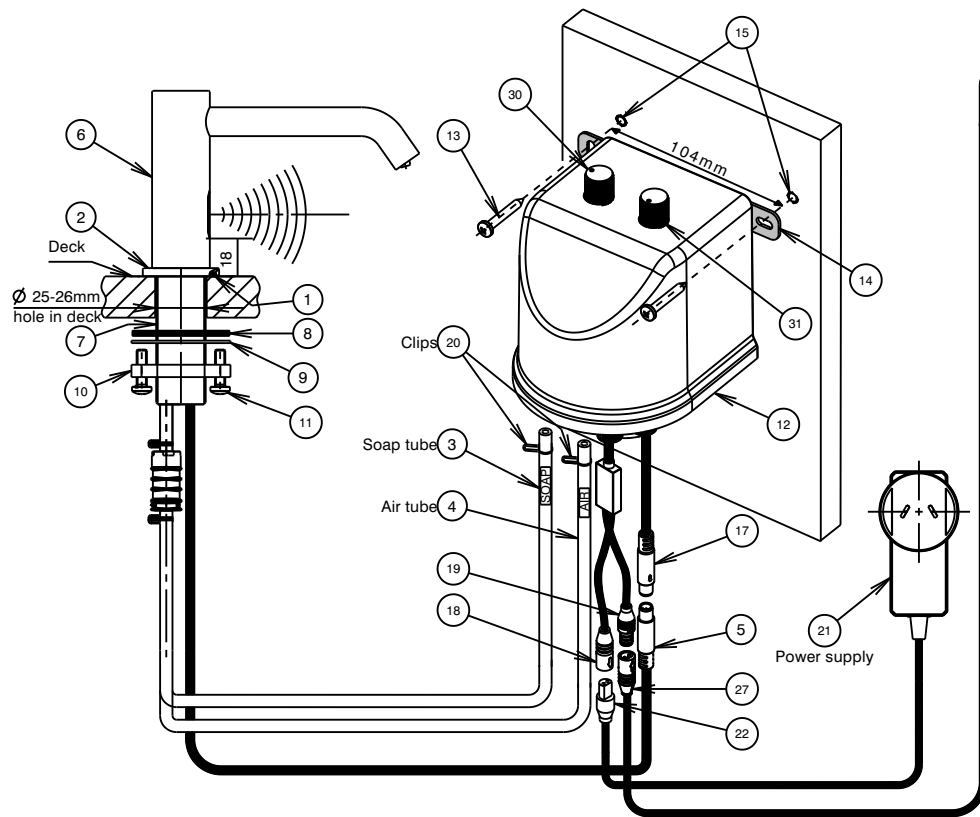
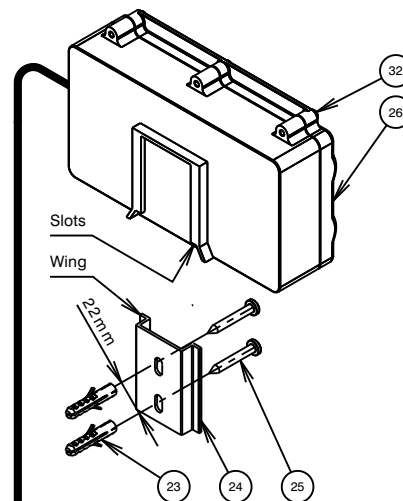
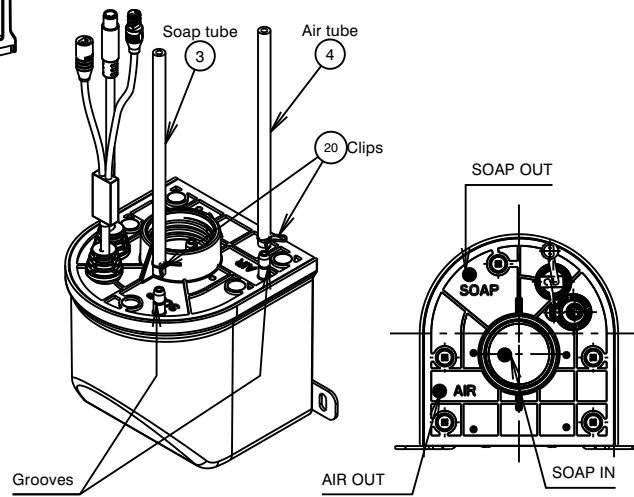

Fig.2 - Sensor unit installation
Fig.6 - Battery box installation
Fig.5
- 1) Ensure 'O'ring (1) is fitted into groove in base ring (2).
- 2) Insert the soap tube (3), air tube (4) and sensor cable (5) through the hole of base ring (2). Pass base ring (2) through threaded tube (7) until the base ring (2) sits against bottom of sensor body (6).
- 3) Insert soap tube (3), air tube (4) and sensor cable (5) through the hole in the deck. Insert threaded tube (7) into deck hole, orientate sensor body as required. From under the deck, Insert soap tube (3), air tube (4) and sensor cable (5) through flat seal (8), washer (9) and clamp ring (10) in order, then fit flat seal (8) followed by washer (9) over threaded tube (7) as shown in Fig. 2. Screw clamp ring (10) onto threaded tube (7) until it contacts washer (9) & the flat seal (8) has contacted the underside of the deck. Tighten two screws (11) equally until sensor assembly is clamped firmly to the deck. DO NOT OVERTIGHTEN.
- i) Drill two Ø6mm holes, 40mm deep and 104mm apart horizontally as shown in Fig. 2.
- ii) Insert small end of wall plugs (15) into drilled holes and tap until flush with wall/tile face.
- iii) Align the slots on fixing plate (14) with the holes on the wall, pass the screws (13) through the slots and insert into the wall plugs (15). Then tighten the screws. DO NOT OVERTIGHTEN.
- i) Drill two holes at 104mm apart horizontally to suit the self tapping screws supplied as shown in Fig. 2.
- ii) Align the slots on fixing plate (14) with the holes on the wall, pass the screws (13) through the slots and insert into the holes in the stud. Then tighten the screws. DO NOT OVERTIGHTEN.
- i) Drill two Ø6mm holes, 40mm deep and 22mm apart vertically as shown in Fig. 6.
- ii) Insert small end of wall plugs (23) into drilled holes and tap until flush with wall/tile face.
- iii) Align the slots on bracket (24) with the holes on the wall, pass the screws (25) through the slots and insert into the wall plugs (23). Then tighten the screws. DO NOT OVERTIGHTEN.
- iv) Mount the battery box (26) onto wings of bracket (24).
- i) Drill two holes at 22mm apart vertically to suit the self tapping screws supplied as shown in Fig. 6.
- ii) Align the slots on bracket (24) with the holes on the wall, pass the screws (25) through the slots and insert into the holes in the stud. Then tighten the screws. DO NOT OVERTIGHTEN.
- iii) Mount the battery box (26) onto wings of bracket (24).
a) Soap tube and air tube connections, (Fig. 2 & Fig. 5):
b) Sensor cable connection, (Fig.2):
By aligning the profile of connectors (5) & (17), connect the sensor cable (5) from the outlet to the end of sensor cable (17) of soap control unit as shown in Fig. 2.
While aligning the 'D' profile of male and female connectors Connect male connector of power cable (22) to female connector (18) of soap control unit (12) as shown in Fig. 2. Connect male connector (19) from control unit (12) to female connector (27) of battery box (26). Ensure all cable connectors are pushed in fully.
7) Adding/Replacing batteries, (Fig. 6)